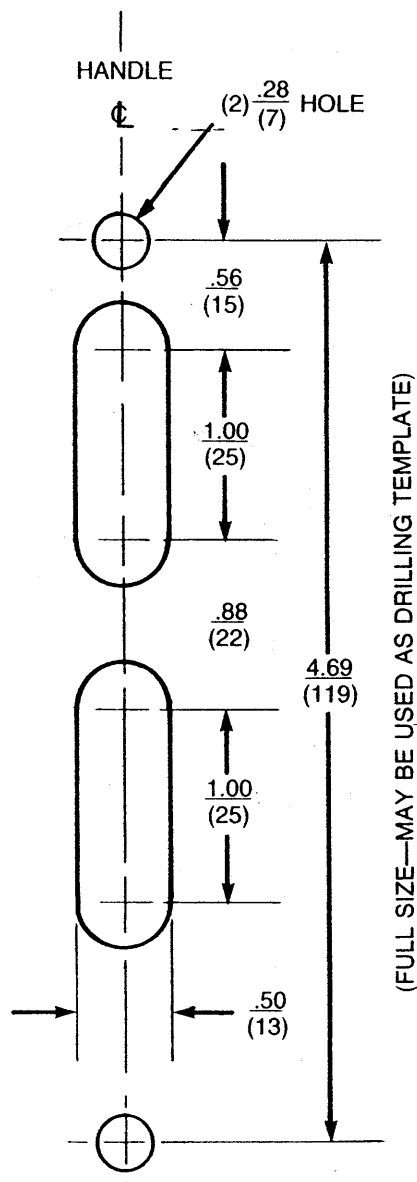

Figure 1A. Right hand flange details (Full size template).
2. If flange is not provided with handle holes and slots, drill per Figures 1A and 1B. Template, Figure 1A may be used.
3. Position gasket item 4, in groove in handle and assemble handle, item 1, and flange stiffening bracket, item 2, to flange of enclosure using two $\frac{1}{4}$ "-20 x $\frac{5}{8}$ inch hex. head screws and lockwashers, item 3. Torque screws to 35-45 in. lb.
4. Assemble interlock blade, item 5, to handle using (2) 8-32 sems screws, item 6.
5. Assemble handle return spring, item 9, to lower end of stiffening bracket, item 2, and then to hole in drive link, item 10.